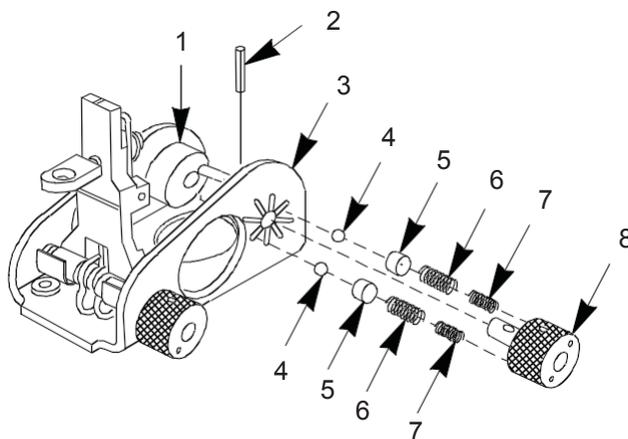
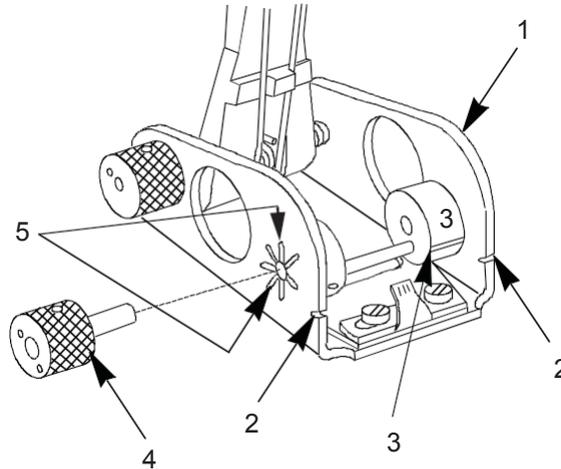

Figure 41. Elevation Knob Assembly, Rear Sight Base, Elevation Knob Assembly.
Figure 42. Elevator Assembly, Detent Springs, Plungers, Rear Sight Base .
12. If elevation knob assembly (Figure 41, Item 8) is not being replaced, install two new detent springs (Figure 41, Item 7), two new detent springs (Figure 41, Item 6), two new plungers (Figure 41, Item 5) and two new ball detents (Figure 41, Item 4) (Parts Kit) into elevation knob assembly (Figure 41, Item 8) and install through left rear hole of rear sight base (Figure 41, Item 3) and into elevator assembly (Figure 42, Item 1). Align holes in elevation knob assembly and elevator assembly, and drive in new spring pin (Figure 41, Item 2) flush.
13. If elevation knob assembly (Figure 41, Item 8) is being replaced, install two new detent springs (Figure 41, Item 7), two new detent springs (Figure 41, Item 6), two new plungers (Figure 41, Item 5) and two new ball detents (Figure 41, Item 4) (Parts Kit) into elevation knob assembly (Figure 41, Item 8). Insert shaft of elevation knob assembly (Figure 41, Item 8) through left rear hole of rear sight base (Figure 41, Item 3) and into elevator assembly (Figure 41, Item 1).
14. With the numeral 3 of the elevator assembly (Figure 42, Item 3) aligned with the notch (Figure 42, Item 2) on the vertical leg of rear sight base (Figure 42, Item 1) and the ball detent holes of the elevation knob assembly (Figure 42, Item 4), positioned into the vertical grooves (Figure 42, Item 5) of the rear sight base (Figure 42, Item 1), insert .012 in / 0.305 mm blade of feeler gage between elevation knob assembly (Figure 42, Item 4) and rear sight base (Figure 42, Item 1).